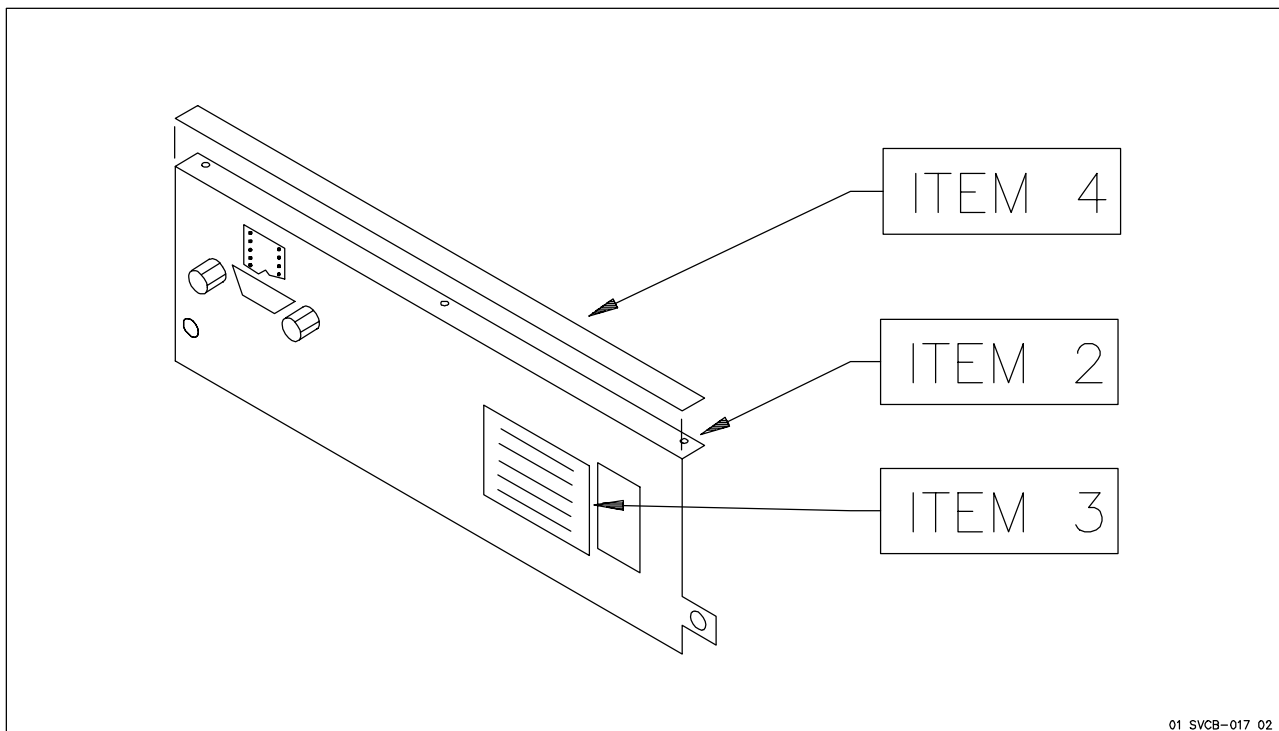

Figure 2.
7. Remove Rear Panel (Item 2 in Figure 2).
11. Attach Item 3 and Item 4 to replacement rear panel (Item 2 in Figure 2).